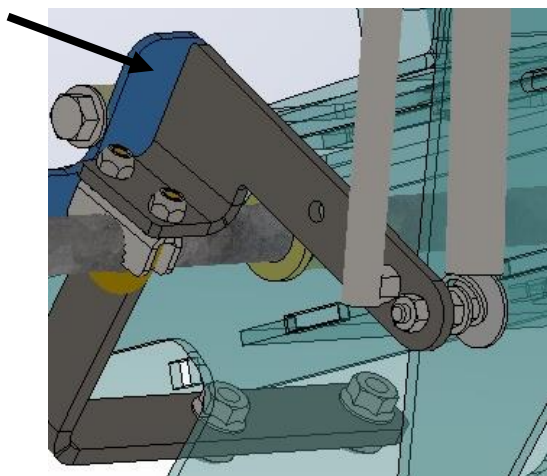

Figure 5
- Place a 1/8" piece of steel spacer (sickle section, etc.) between the middle paddle activation tab (paddle where the sensor is installed) and the roller. (Figure 5)